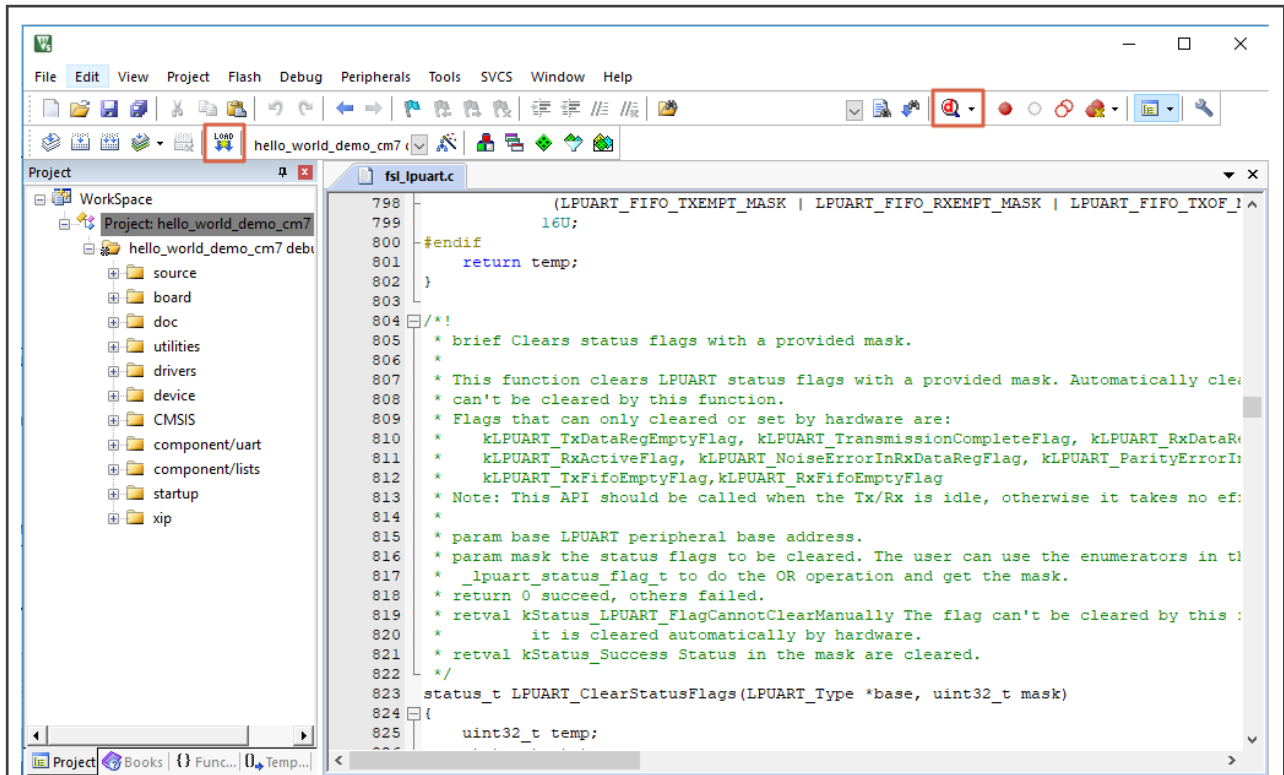

Figure 37. Stop at main() when run debugging
- To debug the application, click **load** or press the F8 key for flexspi target which needs to download the program to flash memory. Then, click the **Start/Stop Debug Session** button, highlighted in red in Figure 37. If using **J-Link** as the debugger, click **Project option > Debug > Settings > Debug > Port**, and select **SW**.